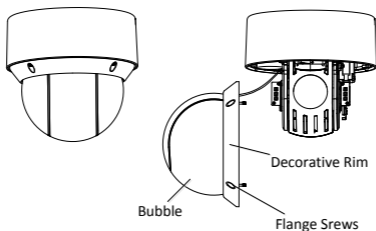

Figure 2-9 Remove the Bubble and the Decorative Rim
2. Loosen four flange screws with a screwdriver. Remove the bubble and the decorative rim as shown in Figure 2-9.